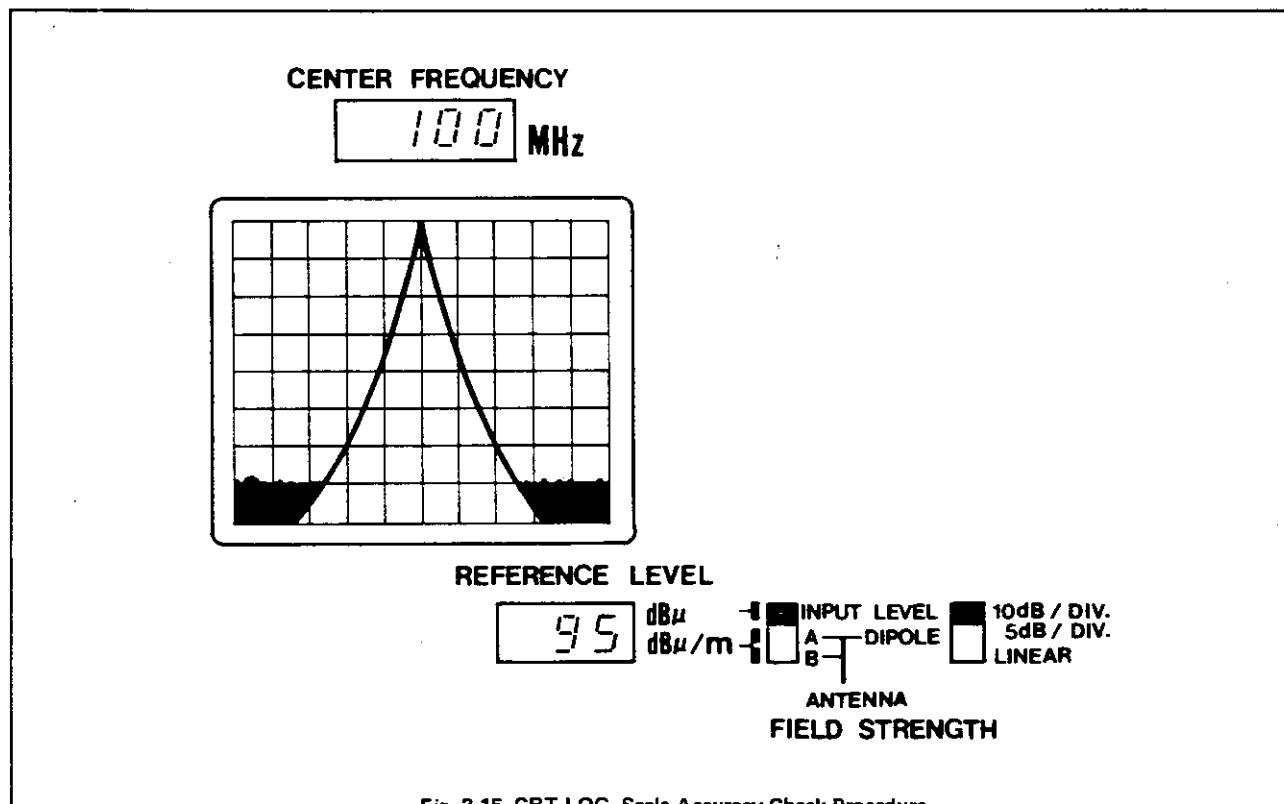

Fig. 3-15 CRT LOG. Scale Accuracy Check Procedure
- (3) Switch **IF GAIN-CAL.** so that the signal peak comes to the horizontal top line. [Fig. 3-15].